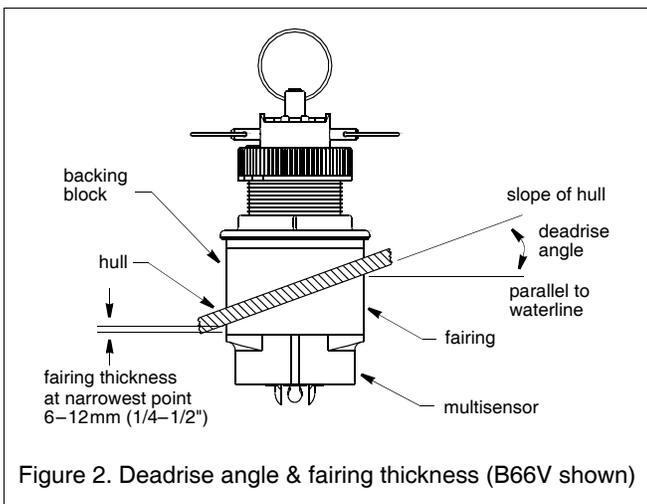

Figure 2. Deadrise angle & fairing thickness (B66V shown)
Nearly all vessels have some deadrise angle at the mounting location. If the multisensor is mounted directly to the hull, the sound beam will be tilted off the vertical at the same angle as the deadrise. A fairing is strongly recommended if the deadrise angle exceeds 10° (see Figure 2).
A backing block is used inside the hull to provide a level surface for the hull nut to seat against. It is fabricated matching the interior deadrise angle of the boat. After cutting an Airmar fairing, use the remaining section with the cutting guide as the backing block (see Figure 2).
1. Drill a 3mm or 1/8" pilot hole perpendicular to the waterline from inside the hull (see Figure 2). If there is a rib, strut, or other hull irregularity near the selected mounting location, drill from the outside. If the pilot hole is drilled in the wrong location, drill a second hole in a better location. Apply masking tape to the outside of the hull over the incorrect hole and fill it with epoxy.
1. Measure the deadrise angle of the hull at the selected location using a digital level (see Figure 2).
4. The fairing must be between 6–12mm (1/4–1/2") at the narrowest spot (see Figure 2).